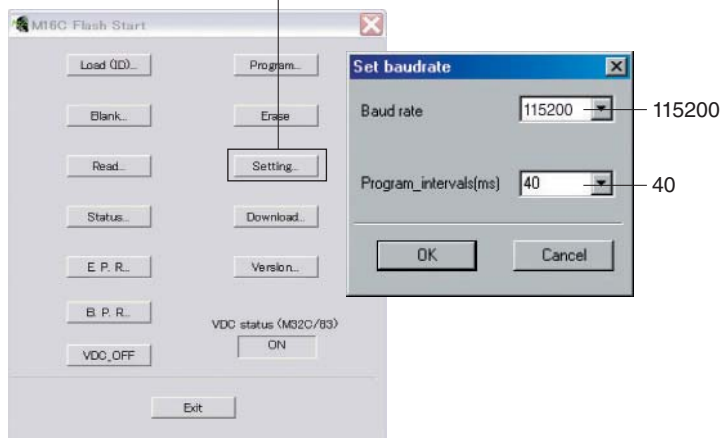

Fig. 5
6. Click [Setting], and set the baud rate. (Fig. 5)
います。(Fig. 5)